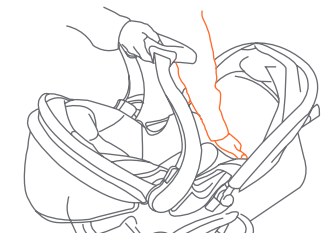

Fig. 14
- 14)** • To remove the Infant Car Seat, squeeze the release handle located at the foot-end of the seat and carefully lift upward on the seat (Fig. 14).